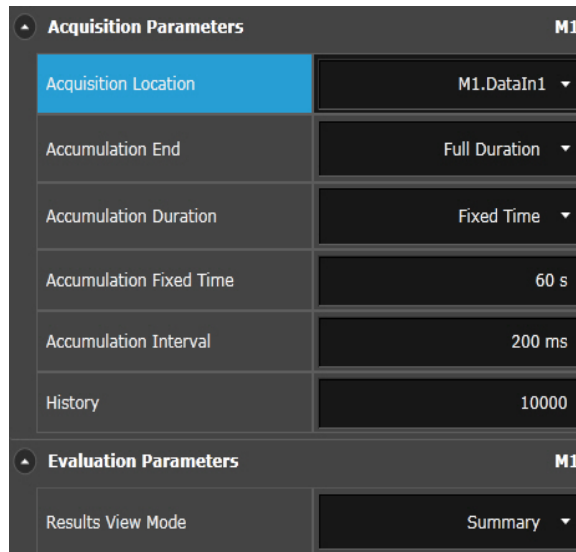

Figure 28 Acquisition parameter settings
- 18 The default acquisition parameter settings are used as shown in Figure 28 on page -55.